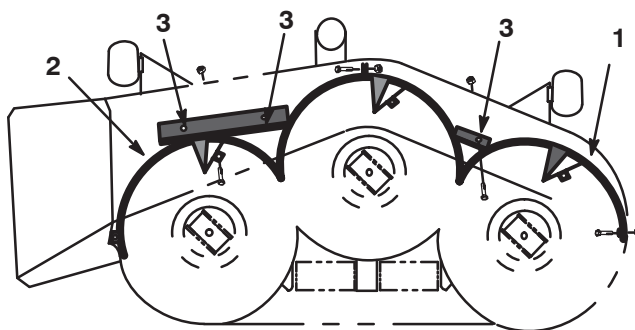

Figure 5
- Place baffle assembly inside cutting chamber and align the mounting holes (Fig. 5).
9. Loosely install the baffle flanges to the housing with (3) 5/16–18 x 5/8” bolts, washers and 5/16-18 locknuts (Fig. 5). The bolt heads are to be positioned inside the mower deck and the washers are to be positioned next to the nuts.
10. Loosely install the rest of the baffle to the housing with (6) 5/16–18 x 5/8” bolts and 5/16-18 locknuts. The bolt heads are to be positioned inside the mower deck.